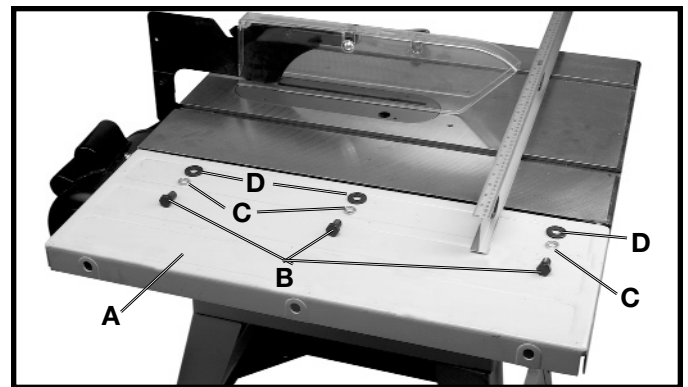

Fig. 39
1. Assemble extension wing (A) Fig. 39, to the saw table. Align the three holes in the extension wing with the three holes in the side of the saw table. Place a 7/16" lockwasher (C) Fig. 39, then a 7/16" flat washer (D) on a 7/16-20x3/4" hex head screw (B). Insert the screw through the hole in the extension wing and thread the screw into the tapped hole in the side of the saw table. Repeat this process for the two remaining holes in the extension wing and the saw table.
2. With a straight edge (E) Fig. 39, make certain the extension wing (A) is level with the saw table before tightening three screws (B).
3. The model 36-678 comes with only one cast iron extension wing and should be assembled to the left side of the saw as shown in Fig. 39.